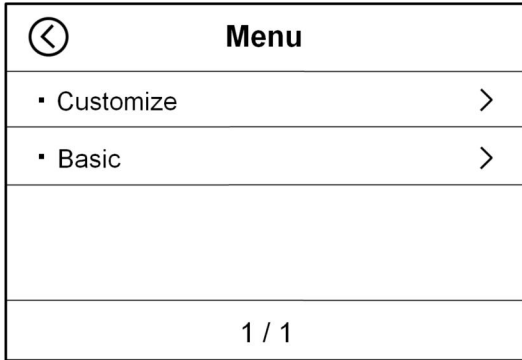
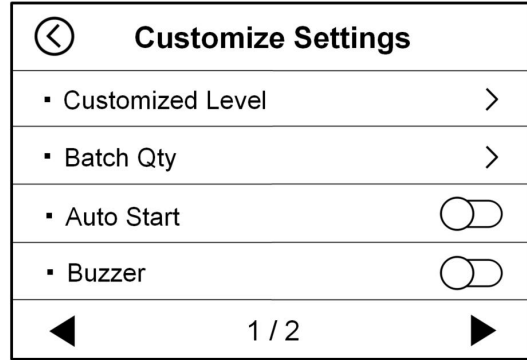

Figure 39
Figure 40
1) Press the “” key to enter the main interface of **MENU**, as shown in Figure 39 below, Press “**Customize**” to enter into Customize Settings, as Figure 40.